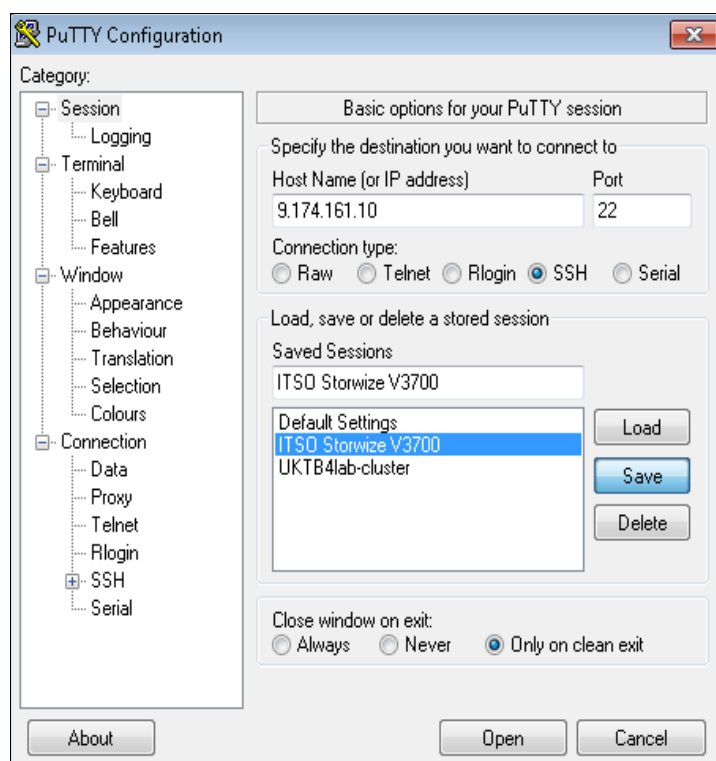

Figure A-14 Save Session
7. Click **Save** to save the new session, as shown in Figure A-14.